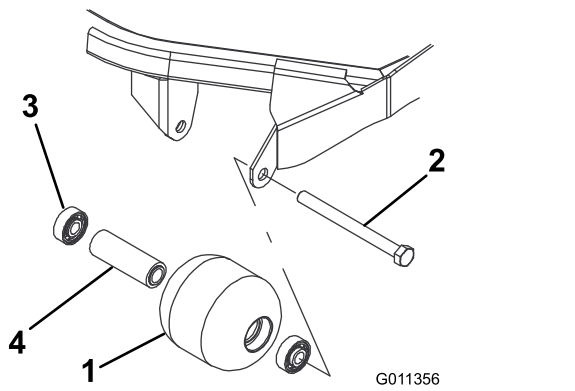

Figure 98
1. Remove the roller-mounting bolt (Figure 98).
1. Press the first bearing into the roller housing (Figure 98). Press on the outer race only or equally on the inner and outer race.
2. Insert the spacer (Figure 98).
3. Press the second bearing into the roller housing (Figure 98). Pressing equally on the inner and outer race until the inner race contacts the spacer.
4. Inspect the roller housing, bearings, and bearing spacer for damage (Figure 98). Replace any damaged components and assemble them.